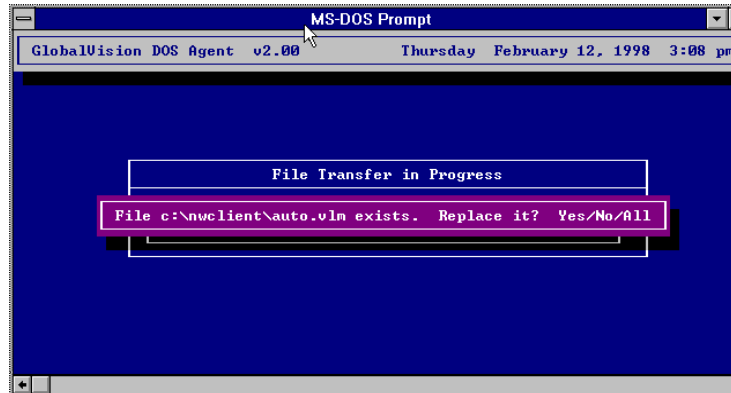

Figure 59 – File Replacement Confirmation messages
7. Several VLM files may need to be replaced because the versions GlobalVision uses may be newer than the existing versions. GlobalVision may not monitor this computer board correctly if the VLM files are not replaced. It is recommended to replace any VLM files the installation requests to be replaced. Message boxes will appear for each one that gets replaced, confirming that they should be replaced. Press **<A>** at the warning message box to replace existing VLM files to continue installation. See Figure 59.